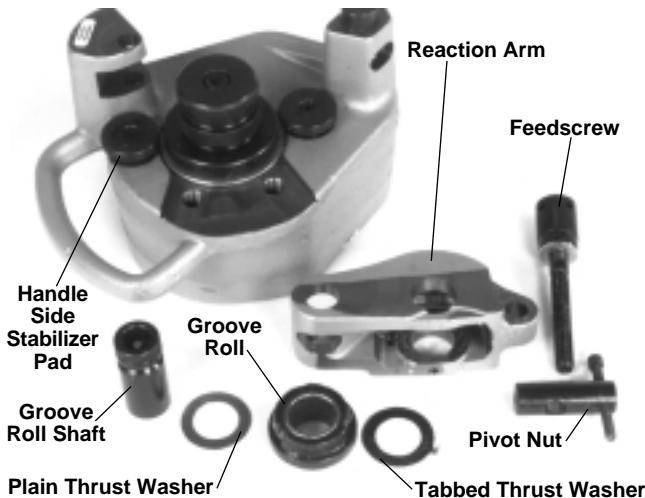

Figure 16 – Parts Call Out
6. Remove feedscrew from pivot pin. Remove pivot pin from reaction arm (*Figure 16*).
7. Remove the hex screw retaining the drive roll with a $\frac{5}{16}$ " hex key. If removing the 4" – 6" Sch. 40 or 8" – 12" Sch. 10 roll set, remove the drive roll support bolts using a $\frac{3}{8}$ " hex key (*Figure 16*).
8. Remove stabilizer pad on the handle side of the 915 using a $\frac{3}{16}$ " hex key. If removing the 8" – 12" Sch. 10 roll set remove both stabilizer pads (*Figure 16*).